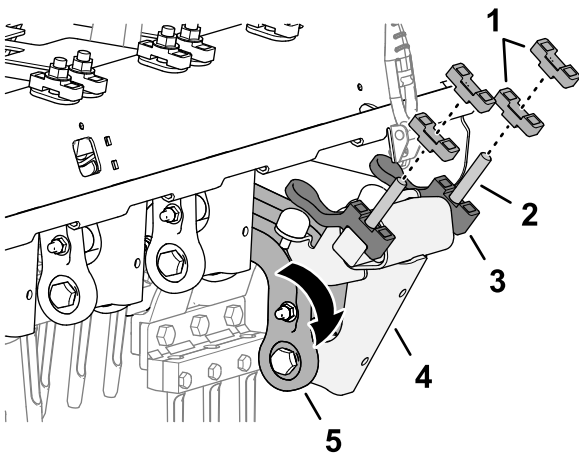

**Figure 122**
3. Rotate the dampener link and dampener shaft down (Figure 122).